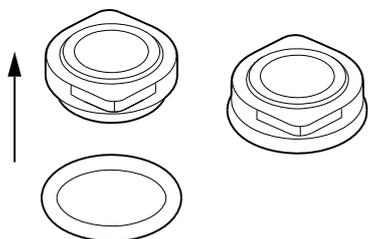

Fig. 10 Fitting the O-ring on the stationary shaft seal part
1. Fit cover plate (pos. 32) and O-ring (pos. 31). Lubricate the O-ring. See section 3. *Tightening torques and lubricants*.
2. Fit O-ring (pos. 102) on the stationary shaft seal part. See fig. 10. See section 3. *Tightening torques and lubricants*.